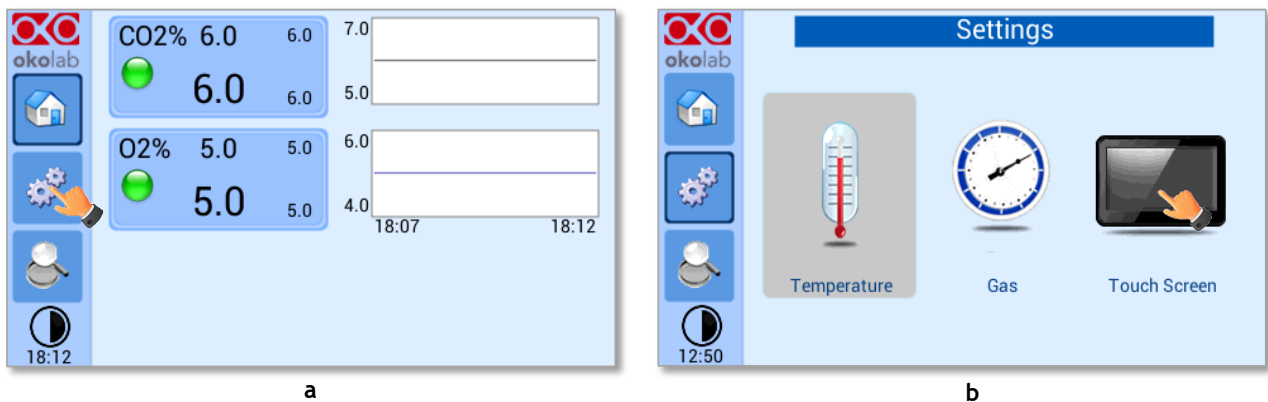

Figure 60 (a) How to enter the setting menu; (b) how to enter the Touch Screen menu.
1. Press on *Settings* icon  (see Figure 60 a) and press on *Touch screen* icon  on the window that opens next (see Figure 60 b).